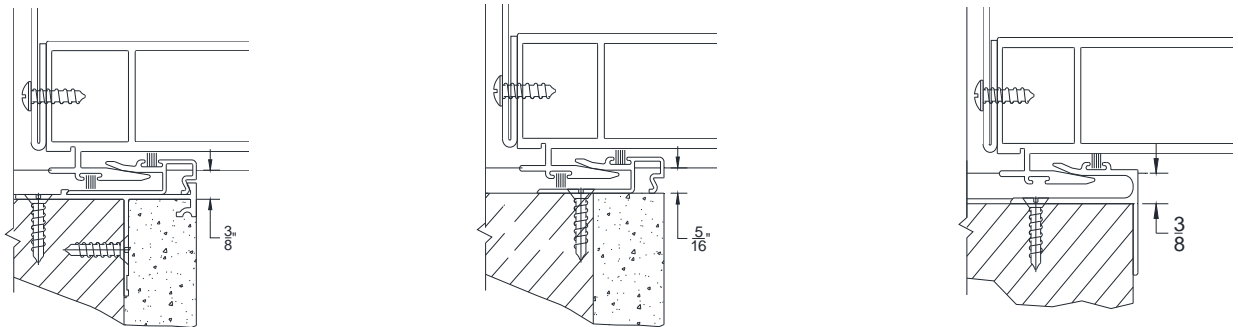

Figure 8:
2. Attach frame to structure as shown below (Figure 7). On pocket doors it is important to locate the frame 3/8" from the inside pocket wall where a 2-piece and L-type Pocket Interlocker is used to allow for proper interlocking of panel with post interlocker. On installations where the J-Post Pocket interlocker clip is only used, a 5/16" distance is required. Figure 8 illustrates the different Pocket interlocker options.
Note: PX and XP door panels can be taken out by removing the lock stile and the Pocket Interlocker clip attached to the frame. Dependent on the pocket interlocker type, removal of the wall may be necessary (Figure 8, Figure 14-16).